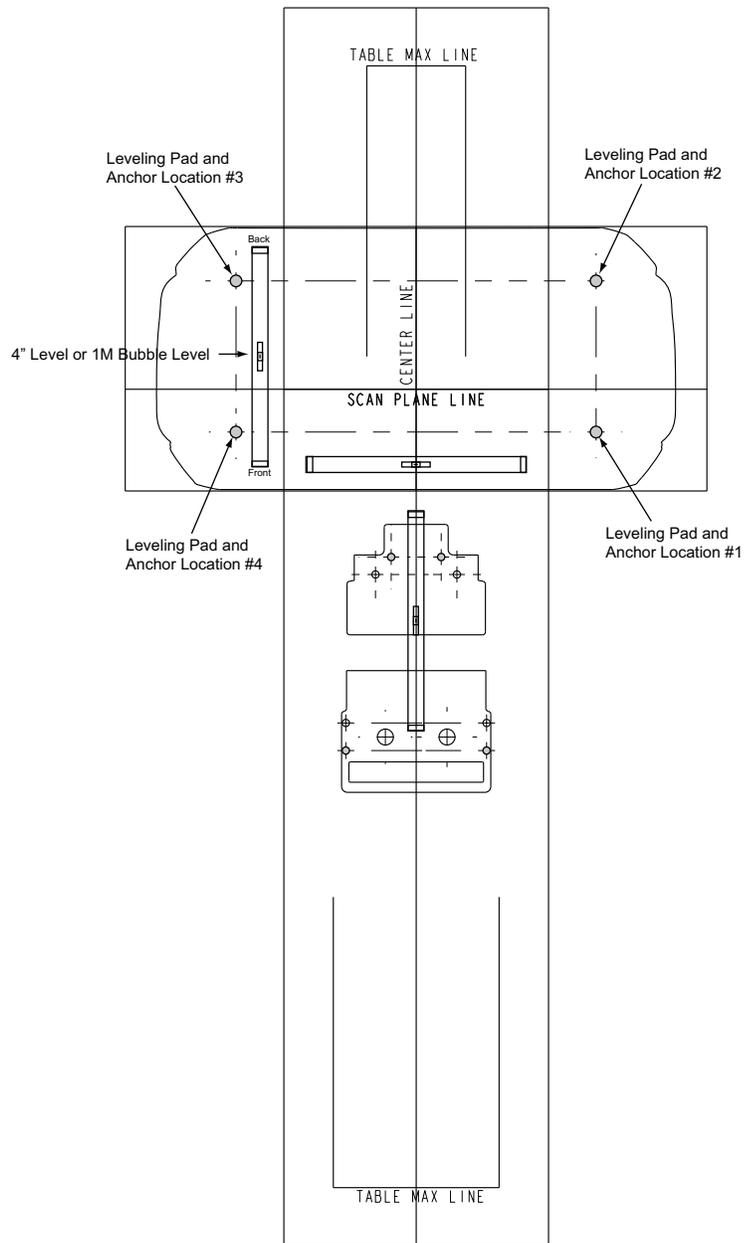

Figure 8-1 Determining Floor Levelness
- 5.) Use a laser to check the levelness of the floor across the entire area covered by the template, as shown in Figure 8-1.